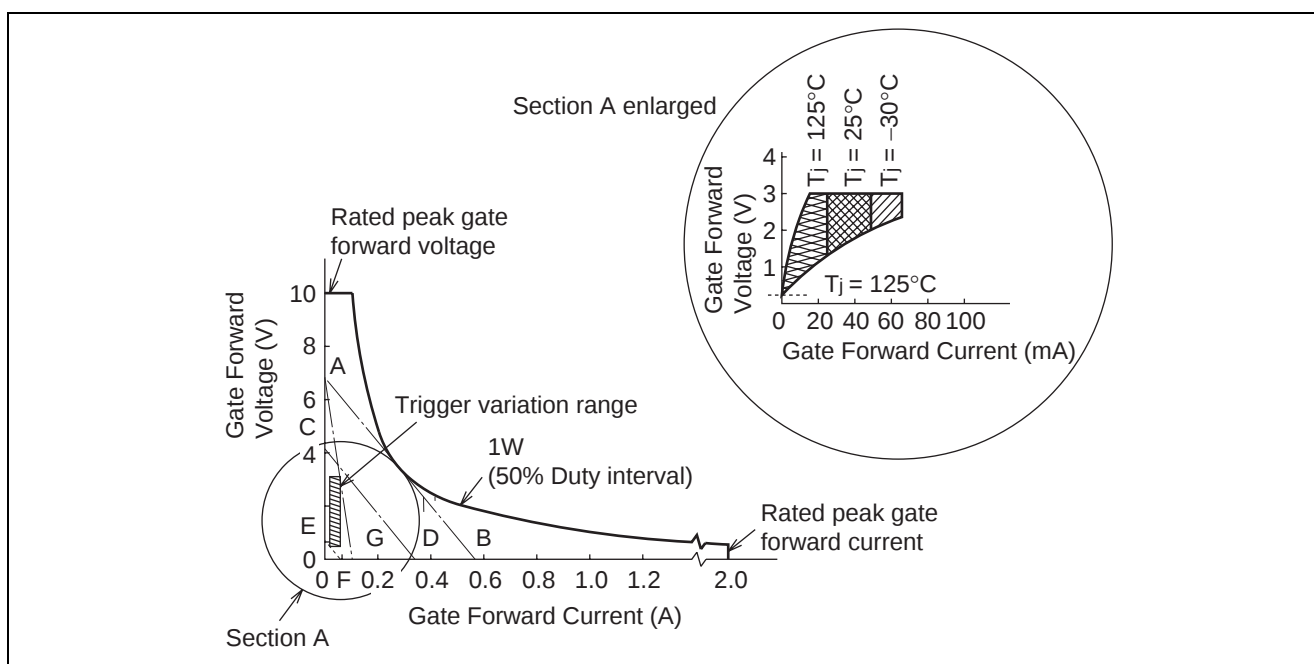
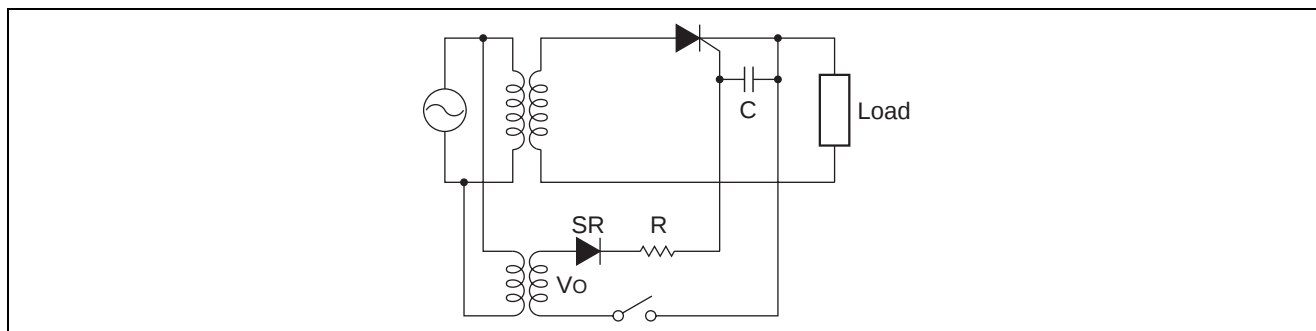

Figure 6 Gate triggering conditions
Figure 9 Trigger circuit wiring diagram
A graph similar to the one shown in Figure 6 can be used to help determine time-constants. Here, the gate forward current is shown on the horizontal axis, and the gate forward voltage on the vertical axis. These two points are connected by a hyperbolic curve that represents allowable gate losses with respect to the range of trigger variations and gate duty interval. In all areas above and to the right of the hatched box, the device will always trigger. The boundary represents the maximum gate trigger current and voltage for the operating temperature range (minimum junction temperature). By contrast, in all areas below and to the left of the hatched box, the device will not trigger. Here, the boundary represents the minimum gate non-triggering current and voltage for the operating temperature range (maximum junction temperature). The graph in Figure 6 is for the thyristor CR20F (a double logarithmic scale graph is used in the catalog). The maximum gate trigger current for that device is 50 mA ($T_j = 25^\circ\text{C}$), maximum gate trigger voltage is 3.0 V ($T_j = 25^\circ\text{C}$), and the minimum gate non-trigger voltage is 0.25 V ($T_j = 125^\circ\text{C}$).
The trigger circuit described here is illustrated in Figure 9. The voltage used to trigger the thyristor CR20F is synchronized with the main circuit. The silicon diode (SR) shown in the circuit functions to block the negative cycle of the trigger supply. Unlike germanium diodes, silicon diodes have a voltage rise of 0.7 V, and so this diode helps prevent unwanted triggering. The trigger voltage supply is also half-wave rectified by the silicon diode SR, so the duty period of the gate is 50%. Referring back to Figure 6 and drawing the allowable power dissipation curve for a gate load line with a duty interval of 50%, and the average gate power dissipation for CR20F is 0.5 W, and the resultant curve for a 50% duty interval will correspond to the 1 W line. In other words, the value for